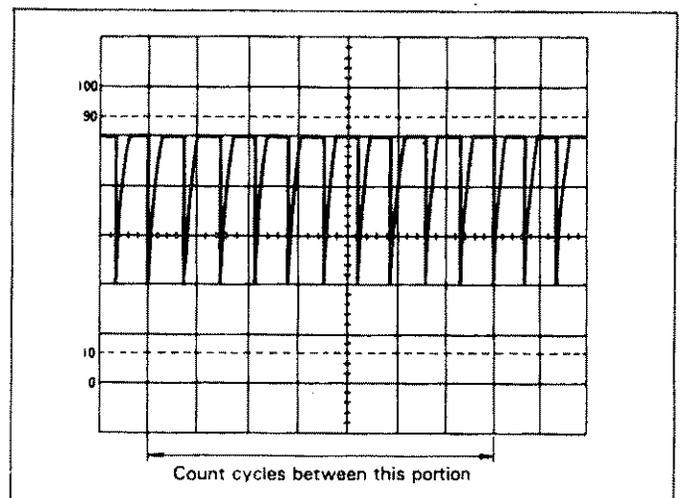

Fig. 10. Alternate Method of Frequency Measurement.
(Refer to Fig. 10)
2. Count the number of cycles of waveform between a chosen set of vertical graduation lines (see Fig. 10).
For the example shown in Fig. 10, there are 10 cycles within 7 divisions. If the sweep **TIME/DIV** is $5 \mu\text{s}$ and **X10 Mag** is not used, the frequency is calculated as follows: